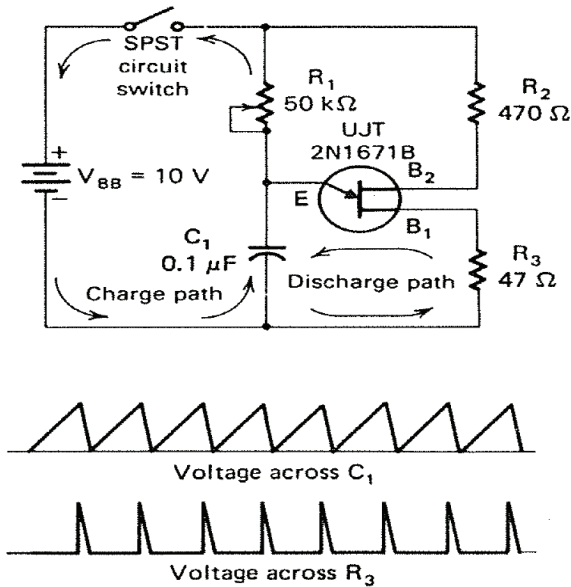

Figure 12.25 UJT sawtooth oscillator.
Figure 12.25 shows a **UJT relaxation oscillator** that is frequently used to trigger an SCR. In this circuit, two parallel paths are formed by the components. Resistors R_1 , R_2 , and C_1 form the charge path, whereas R_3 and the UJT form the discharge path. When the switch is turned on, approximately 4 V appears across R_3 and 6 V appears across the UJT and R_2 . This voltage reverse biases the E- B_1 junction.
Resistor R_1 and capacitor C_1 receive energy from the source at the same time that the base path does. Capacitor C_1 begins to develop voltage across it at a rate based on the RC values of R_1 and C_1 . When the charge voltage at C_1 reaches 6 V, it overcomes the reverse biasing of the E- B_1 junction. When this occurs, the junction becomes very low resistant and C_1 discharges very quickly. The E- B_1 junction immediately becomes reverse biased because of the reduced emitter voltage. The capacitor then recharges and the process is repeated. A **sawtooth waveform** appears across the capacitor as indicated in **Figure 12.25**. The discharge voltage across R_3 produces a spiked pulse that shows the discharge time of C_1 . The rise time of the sawtooth wave is adjusted to some extent by different values of R_1 . When the charging action of the capacitor is reached in the first time constant and maintained, this circuit can achieve very accurate **pulse generation**.
41. In the UJT circuit of **Figure 12.25**, when the voltage across capacitor C_1 builds up to a value that exceeds the intrinsic standoff ratio, it causes _____ of the E_{B1} junction.